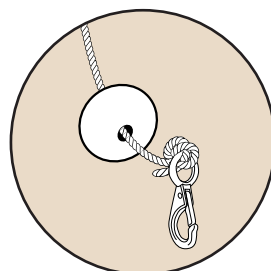

Fig 6,
9. Thread the halyard through the white ball and tie onto the clip provided. (See Fig 6)